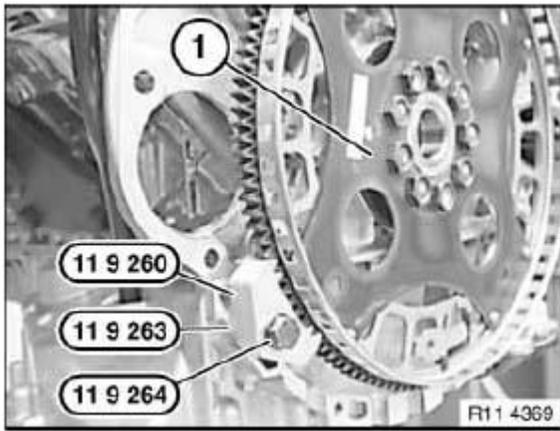

Fig. 131: Identifying Flywheel With Special Tools
Block flywheel (1) with special tool 11 9 260, use an old transmission screw for this purpose. See Fig. 131.